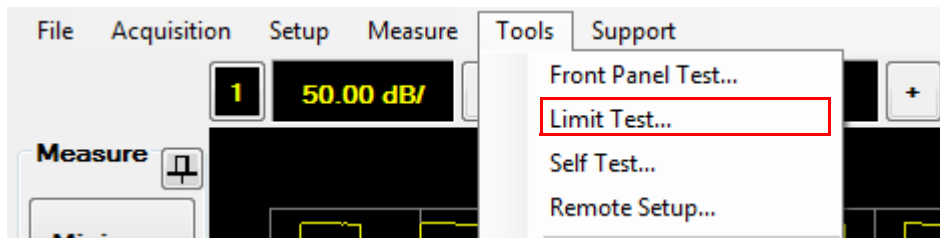

Figure 2-131 Limit test... selection in the Tools menu
- 1 Select **Tools > Limit Test...** on the toolbar as shown in Figure 2-131.